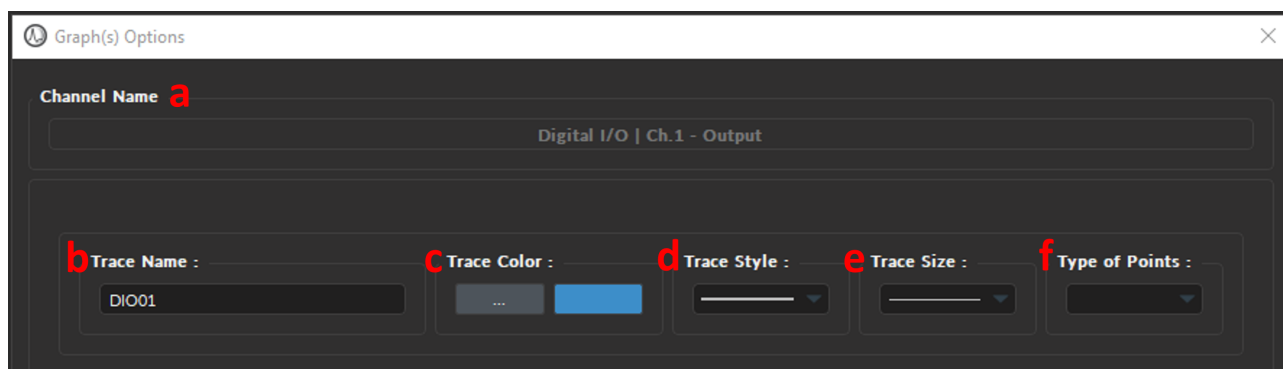
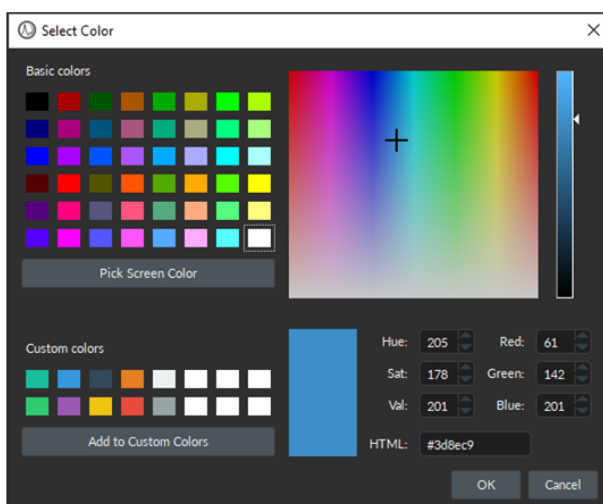

Figure 3.51: Graph(s) Options Window
Figure 3.52: Select Color Window
1. The **Channel name** (Fig. 3.50b, 1) is located on the upper left of the **Control box**, identifying the type of channel and its number, corresponding to that on the console. This name can be modified in the **Graph options** window (Fig. 3.51).
3. The **Graph(s)** (Fig. 3.50b, 3) button opens the **Graph Options** window (Fig. 3.51) corresponding to the channel whose graph will be modified. This window allows users to configure visualization and naming parameters of each channel graph (Fig. 3.51). If a channel has multiple traces, parameters to configure each trace individually will appear automatically on different rows (Fig. 3.51). **Graph(s) Options** parameters (Fig. 3.51) are as follows:
- a) The **Channel Name** (Fig. 3.51, 1) is the default name assigned by the software, which includes the type of channel (Digital / Analog In or Out) and the location of said channel on the console (BNC connector 1-4).
- b) The **Trace Name** text-box (Fig. 3.51, 2) allows users to specify a name for the trace, instead of the default name generated by the software.
- c) The **Trace Color** button (...) (Fig. 3.51, 3) opens the **Color Select** window (Fig. 3.52), which allows the selection of a trace color from a wide palette. The **Pick screen color** in this window allows the selection of any color displayed on the computer screen.
- d) The **Trace style** drop-down list (Fig. 3.51, 4) allows the selection of the type of trace, from full to dashed lines. If the style chosen is empty, the trace will not be displayed.
- e) The **Trace size** drop-down list (Fig. 3.51, 5) allows the selection of the trace size. Using a bigger **Trace size** than the default may result in slower display and performance degradation.
- f) The **Type of points** drop-down list (Fig. 3.51, 6) allows the selection of what type of point used to indicate data points on the trace. Using different point types than the default (none) may result in slower display and performance degradation.
- **Axis Options** - Each **Graph** (Fig. 3.51) has both a **Voltage** or **State** as the vertical axis and **Time** as the horizontal axis. Double-clicking either axis will open an **Axis Options** window where the axis limits can be set, similar to the **Zooming Range** in the **View Tab**. Any changes done on a horizontal axis will change the axis limits for every channel.